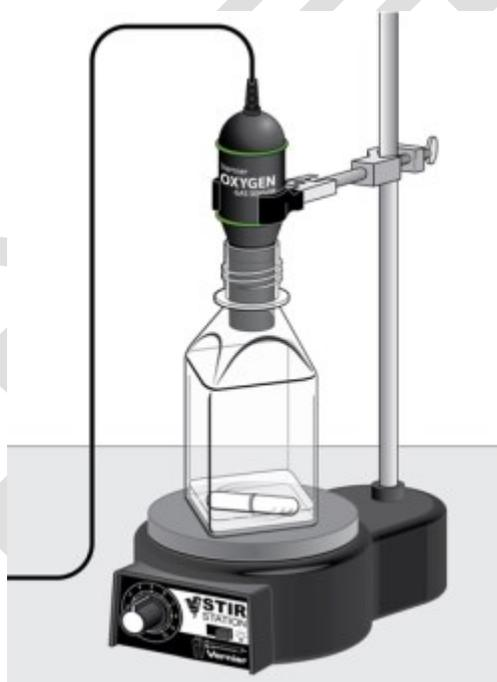

Figure 1
- c. Place the O2 Gas Sensor into the bottle as shown in Figure 1. Gently push the bottle up onto the sensor until it stops. **Note:** The sensor is designed to seal the bottle with minimal force.
- c. Secure the Temperature Probe in the water bath with a utility clamp and ring stand as shown in Figure 1.
11. Use a utility clamp to fasten the conical tube in the water bath as shown in Figure 1. **Note:** Be sure that most of the test tube is covered by the water in the water bath. The temperature of the gases in the tube must be constant for this experiment to work well.